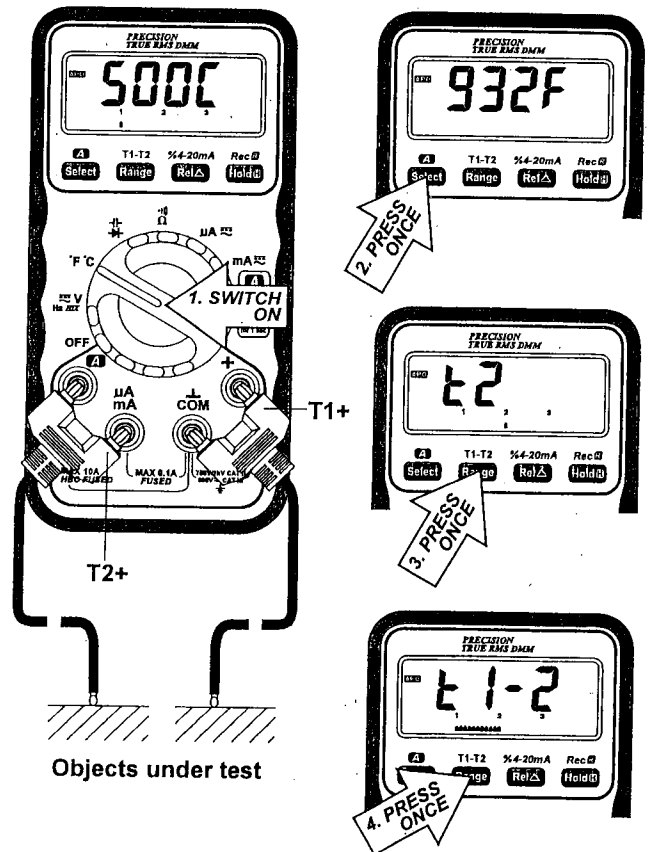

FIG 4. TEMPERATURE T1-T2 FUNCTION
- 3) Insert banana plug K-type temperature bead probe (optional accessory) with positive (+) plug into T1+ (+jack) and negative (-) plug into T1- (COM) input jack for T1 measurement; and with positive (+) plug into T2+ ($\mu A/mA$) input jack and negative (-) plug into T2- (A) input jack for T2 measurement. You can also use a plug adapter (optional accessory) with banana pins to K-type socket to adapt the standard K type mini plug temperature probe
- 4) Touch the end of the thermo-probe(s) to the measurement surface(s) and observe the digital display, see **FIG 4**